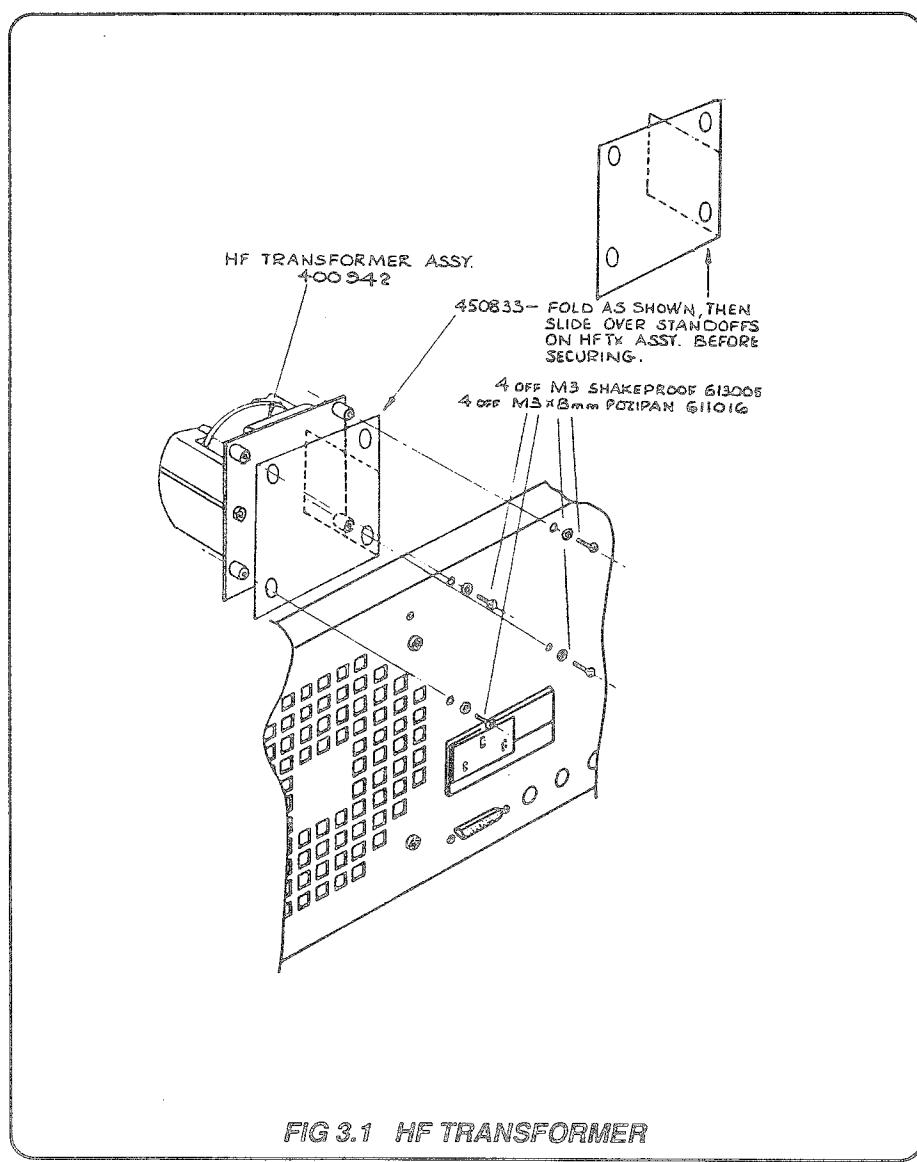

FIG 3.1 HF TRANSFORMER
- Remove four M3 x 8mm pozi-pan screws (see Fig. 3.1).
Reverse the removal procedure referring to Fig. 3.1.